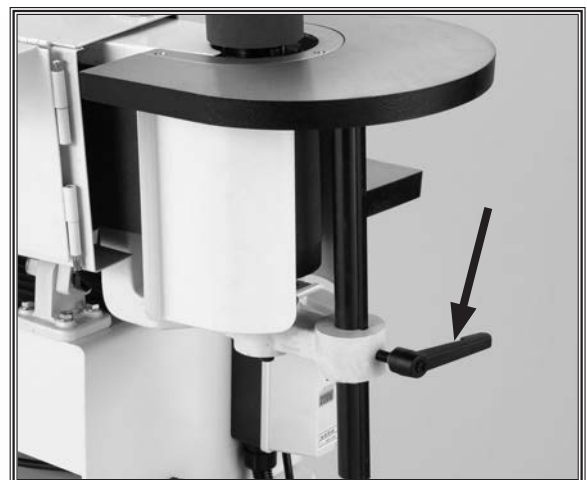

Figure 29. Adjustment lock handle.
1. Loosen the adjustment lock handle shown in **Figure 29**.